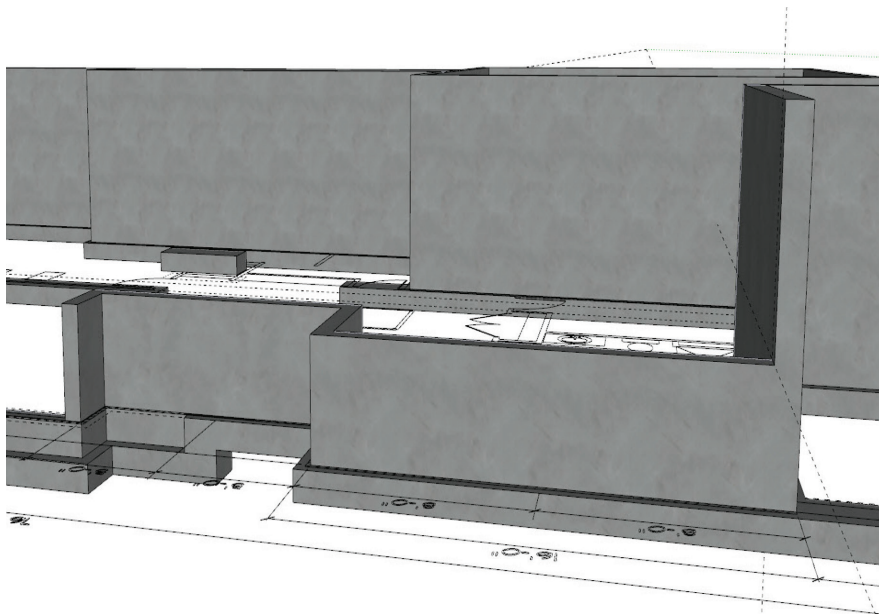

Figure 10.66 Short Foundation Wall 2.
To achieve this, I will edit the end of the 9' foundation wall that currently terminates flush with the exterior of the wall. When I edit this group, I will add a guide (T) that is 3'3" up from the bottom of the foundation wall. Since the new wall is 8" thick, I will add a guide that is 8" in from the end. I then draw a line along both guides to create our face that is 3'3" tall \times 8". As I have done before, I will Push/Pull (P) along the path shown in the above image. The result looks like the image in Figure 10.66.